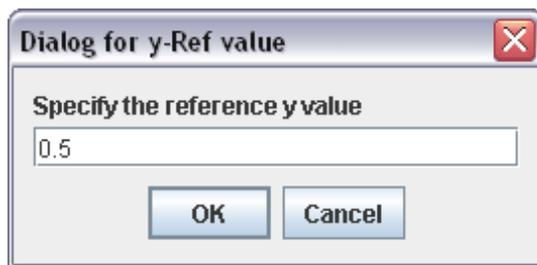

Figure 3.22: Pop-up dialog for the “Y ref” item in the “Eye Mode” menu.
- **Y ref:** will prompt for a reference (re-centering) Y value, as shown in Figure 3.22.